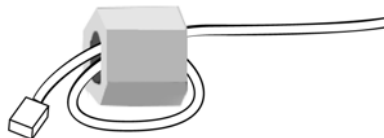

Figure 6-33 Ferrite Bead with APR Adapter
11. Using the ferrite bead that was included with the APR Adapter, wrap the line cord once through the ferrite bead and snap it shut (refer to Figure 6-33 Ferrite Bead with APR Adapter on page 6-42).